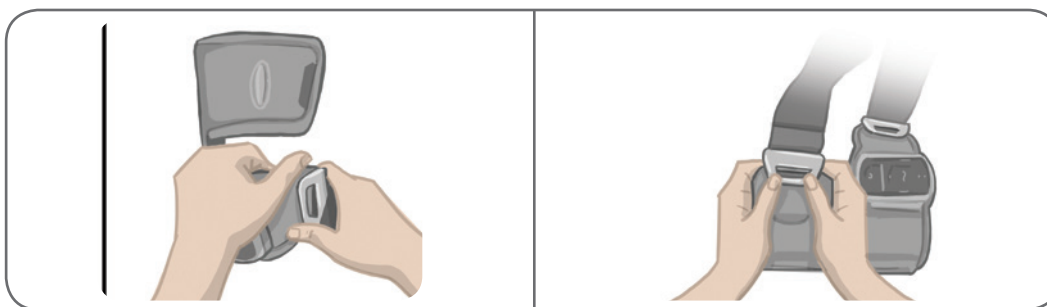

Figure 11-12: Removing the Thigh Straps
1. Push the attached thigh strap buckle toward the thigh FS Cuff while making a twisting motion. See Figure 11-12.